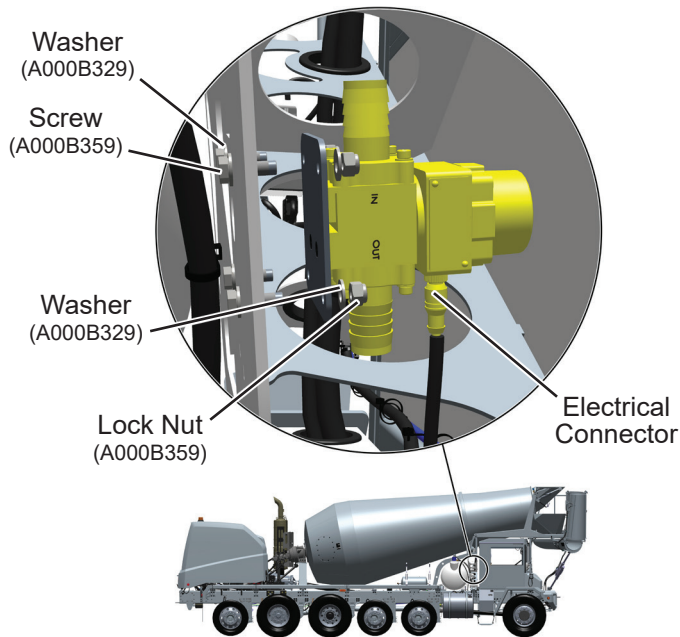

Figure 5
9. Secure water meter and plate to front pedestal with screws (A000B359), washers (A000B329), and lock nuts (A000B536). See Figure 5. If existing longer mounting screws were not able to be removed install washers (A000B329) and lock nuts (A000B536) on existing screws. Final tighten mounting hardware to 110 in. lbs.
10. Reconnect electrical connector to bottom of water meter. See Figure 5.